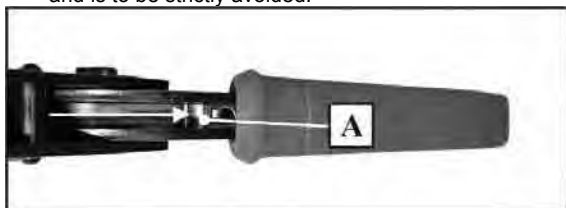

Fig.8.
- ❑ Using small screwdriver or similar tool, push the ratchet relief (A), located inside the moving handle, (Fig. 8.) in direction as shown to unblock the tool, and remove obstruction before continuing with the work.